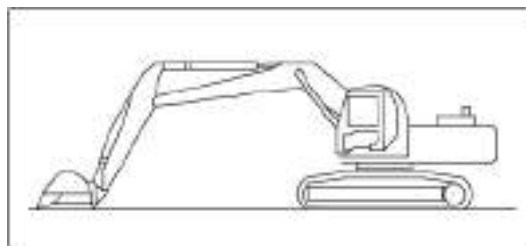

Figure 4-13 Check the gesture of the hydraulic oil device
a). If the working device is not in the state shown in Figure 4-13, you should start the engine and keep it run at low speed. Retract the arm and bucket cylinders, and lower the boom and adjust the bucket teeth to have them contact with the ground, and then turn off the engine.